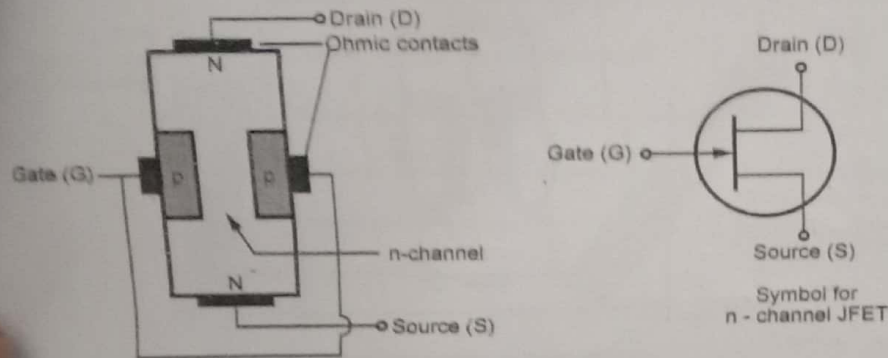

Fig. Q.4.1 Structure and symbol for n-channel JFET
Ans. : • The Fig. Q.4.1 shows structure and symbol of n-channel JFET. A small bar of extrinsic semiconductor material, n type is taken and at its two ends, two ohmic contacts are made which are the drain and source terminals of FET.
- The electrons enter the channel through the terminal called **source** and leave through the terminal called **drain**. The terminals taken out from heavily doped electrodes of p type material are called **gates**. Usually, these electrodes are connected together and only one terminal is taken out, which is called **gate**, as shown in the Fig. Q.4.1.